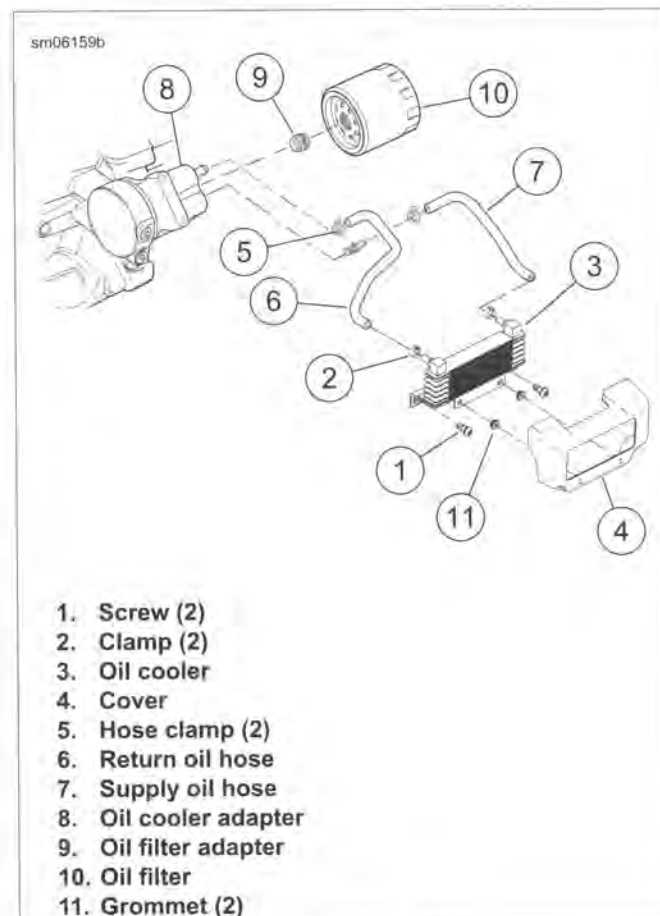

Figure 3-11. Oil Cooler
3. See Figure 3-11. Pull out on the bottom of the oil cooler cover (4) to disengage the lower retaining pins, then pull up and remove cover from oil cooler.
4. Remove screws (1) securing the oil cooler (3) to the frame.
5. Slide clamps (5) down the oil hoses (6, 7). Disconnect hoses from the oil cooler adapter (8).
8. To remove hoses from the oil cooler, cut clamps (2).
1. See Figure 3-11. If replacing the hoses, place **new** hose clamps (2) on the oil cooler end of the hoses.
4. Secure cooler to frame with screws (1). Tighten to 20-22 ft-lbs (27.1-29.8 Nm).
5. Place clamps (5) on hoses. Install the hoses into the fittings of the oil cooler adapter. Secure clamps on hoses.
6. Check the condition of grommets (11) and replace as necessary. Install cover (4), upper latches first, then push down and back to engage lower pins into grommets.